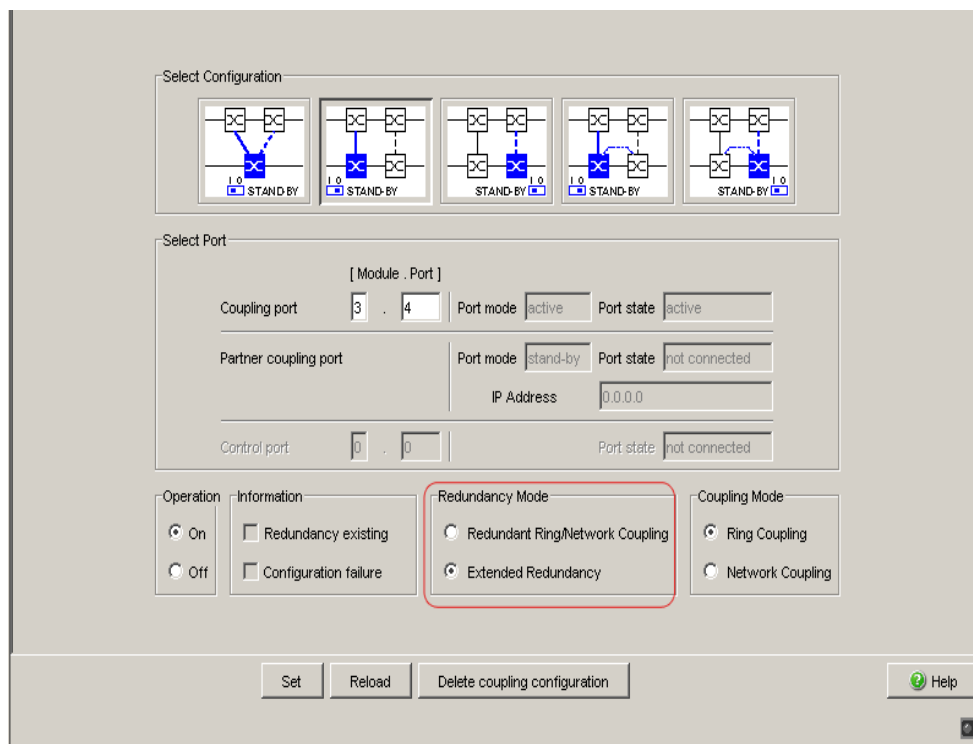

Figure 18: Selecting the redundancy mode
- ☐ Select two-Switch redundant coupling (see fig. 18).
- ☐ In the “Redundancy Mode” frame, select (see fig. 18)